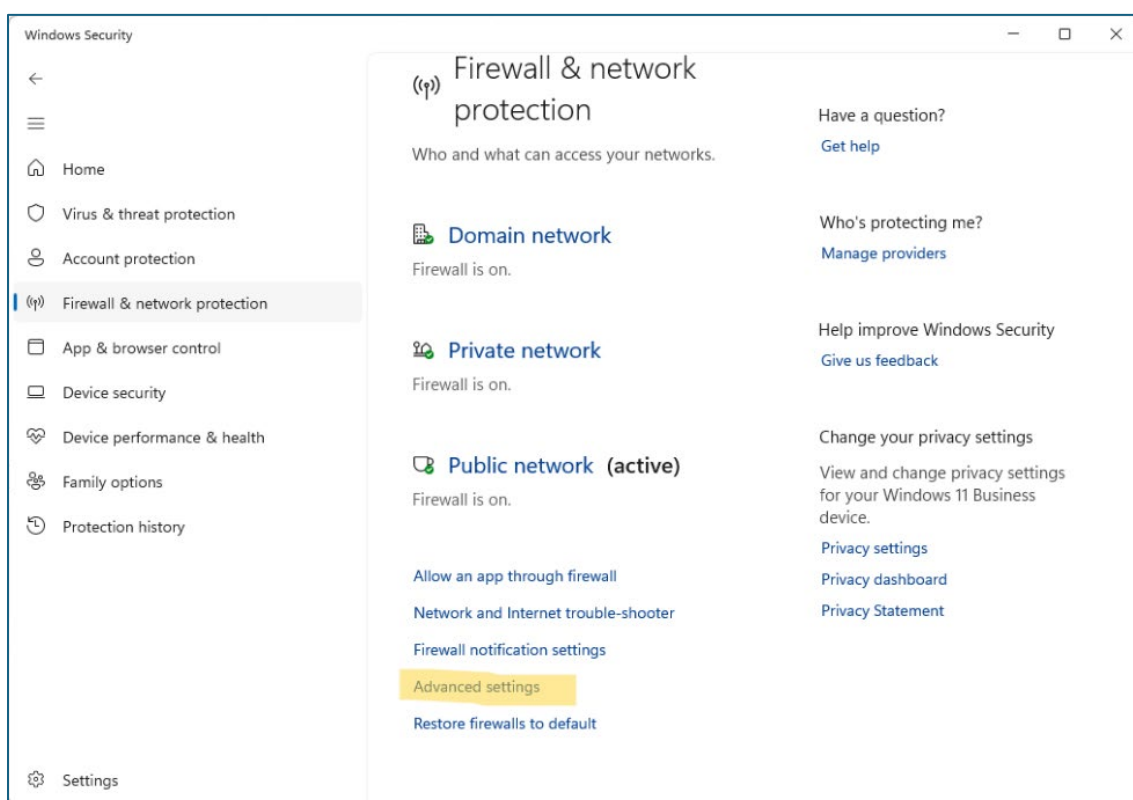

Figure 49 Windows Security firewall settings showing Firewall & network protection and access to advanced settings.
- a. Go to Start → Windows Security → Firewall & network protection as shown in Figure 49.